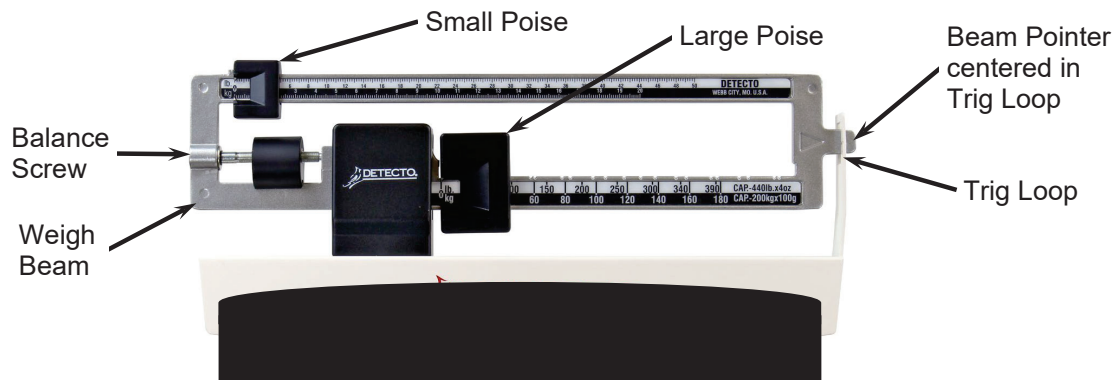

Figure 3 - View showing components for balancing scale before normal operation.
3. If the beam pointer doesn't remain centered, turn the balance screw (shown in Figure 3) to the right or left using a flathead screwdriver until the beam pointer remains centered within the trig loop.
2. Move both poise to the Zero position. Be sure the Beam Pointer is in the center of the opening in the Trig Loop. Refer to Figure 3.
Zero balance out of adjustment	<ul style="list-style-type: none"> The weighing beam must be balanced so the beam pointer comes to rest in the center of the trig loop when both the small and large poise is set at zero (far-left position). Refer to Figure 3 and BALANCING THE SCALE instructions.